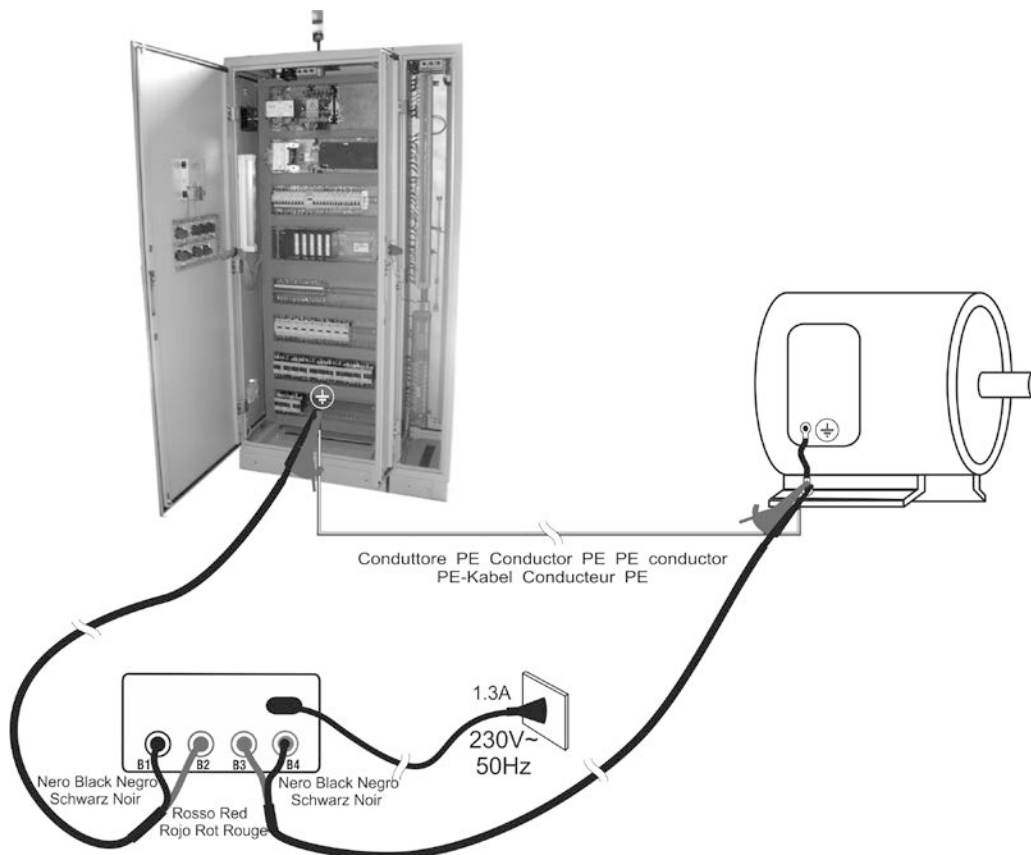

Fig. 6: Instrument connection for LOW Ω 10AE204 test
4. Connect the connectors of the measuring cables C7000 provided to the instrument's input terminals **B1** (Black), **B2** (Red), **B3** (Red), **B4** (Black) and the alligator clips to the item to be tested as indicated in Fig. 6